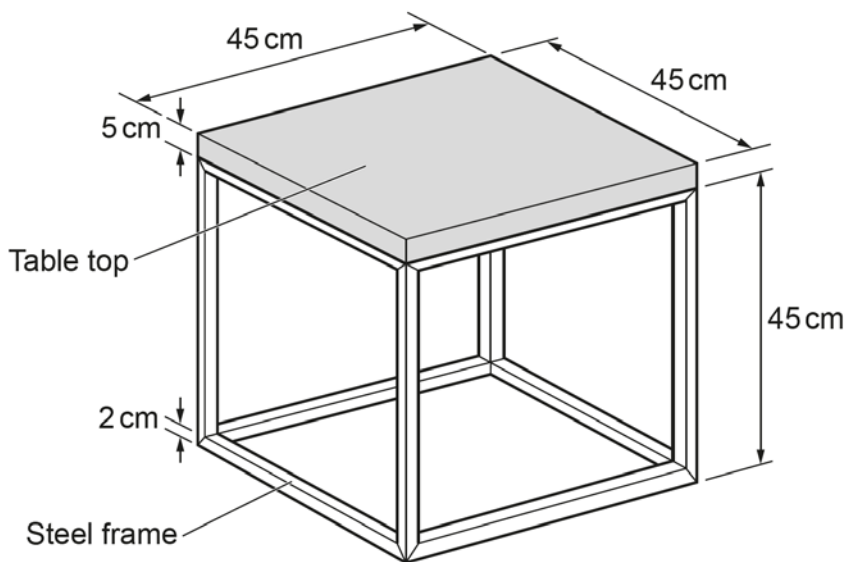

Fig. 2
Fig. 2 is repeated below.
- (d) The side table shown in Fig. 2 is packaged in a cardboard box.